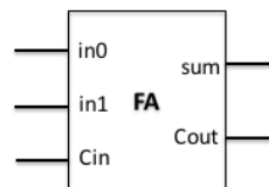

Figure 2: 1-to-2 DMUX
a) Fill-in the truth table for the 1-bit Full Adder (FA) shown in Figure 2.